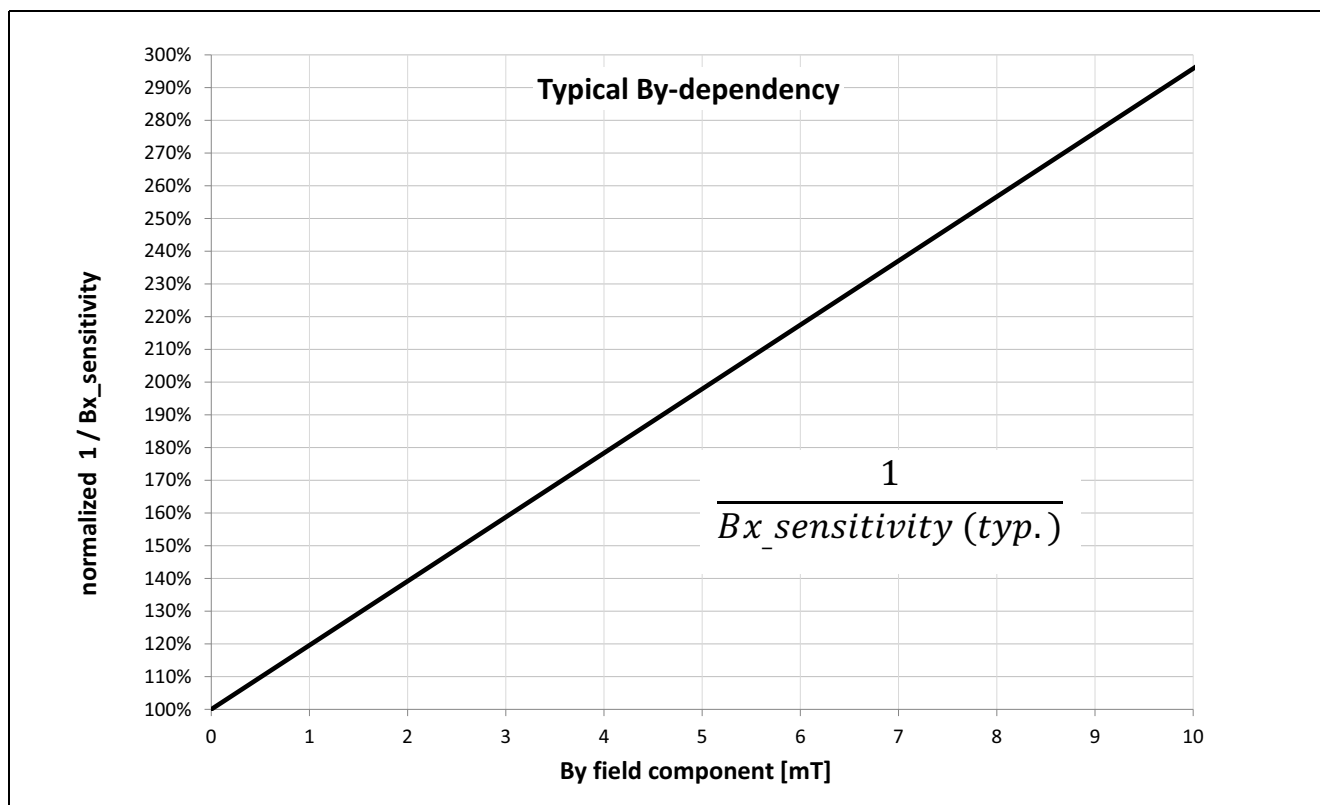

Figure 12  $B_y$ -dependency of  $1/B_x$ -sensitivity
- 2) Measured from sensor branded side to reference wheel without external disturbance fields. Measurement criterion: 99% of correct pulses available. According to Figure 12  $B_x$ -sensitivity is reduced by  $B_y$ -field influence. Numbers valid for  $T_j = 25^\circ\text{C}$ . Temperature compensation +1900 ppm (ferrite material of encoder wheel)
High performance is achieved in each operating area. Using a static  $B_y$ -offset reduces the sensitivity according to Figure 12.